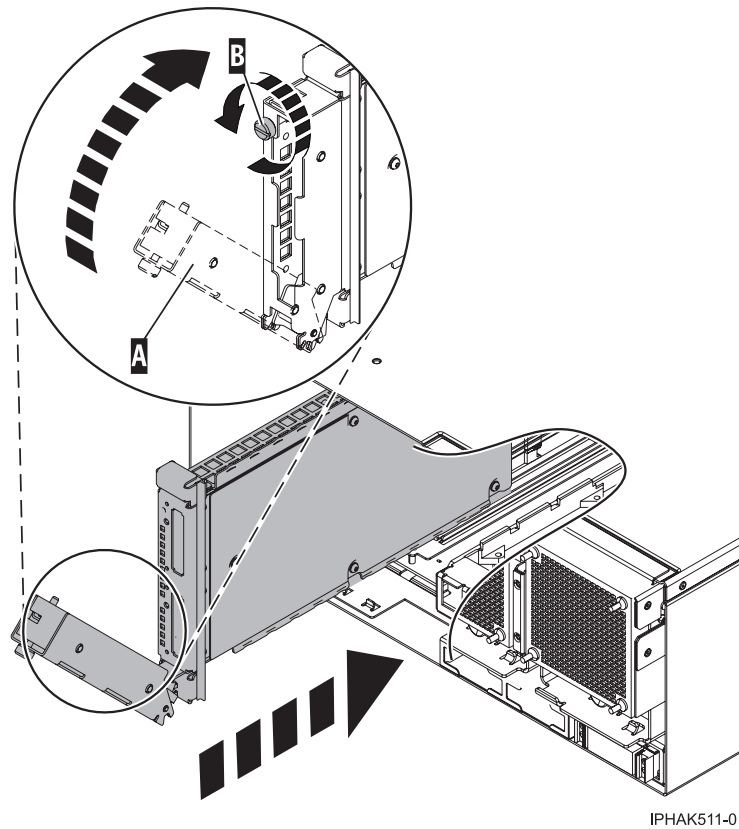

Figure 3. Adapter replacement in the system
5. Push the handle **(A)**, shown in Figure 3 on page 13, up and toward the system until the handle stops against the adapter.